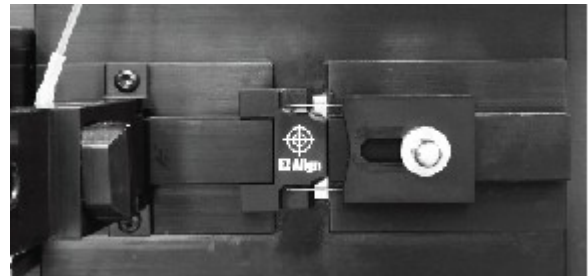

Figure 1. Orientation of the *EZ Align Tool* installed in the *Flow Cell Groove*.
- Make sure the fluorescent target on the *EZ Align* has a light coating of *Dielectric Grease* or *Index Matching Fluid* and then clip it in place of the *Flow Cell*. Look at the *EZ Align* logo. It should be right side up and properly aligned (**Figure 1**).